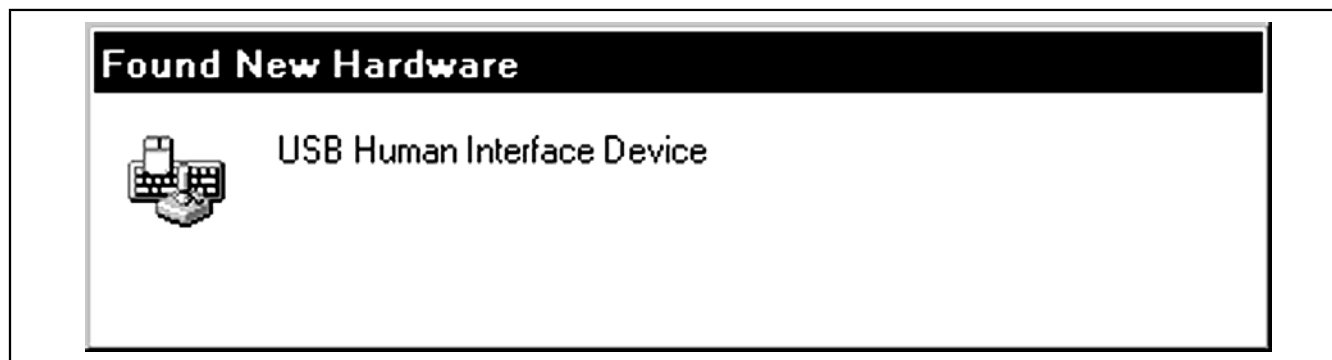

Figure 2. Found New Hardware / USB Human Interface Device Window
- 6) Next, a **Found New Hardware | USB Human Interface Device** appears, as shown in Figure 2. The standard Windows USB HID driver is installed automatically.